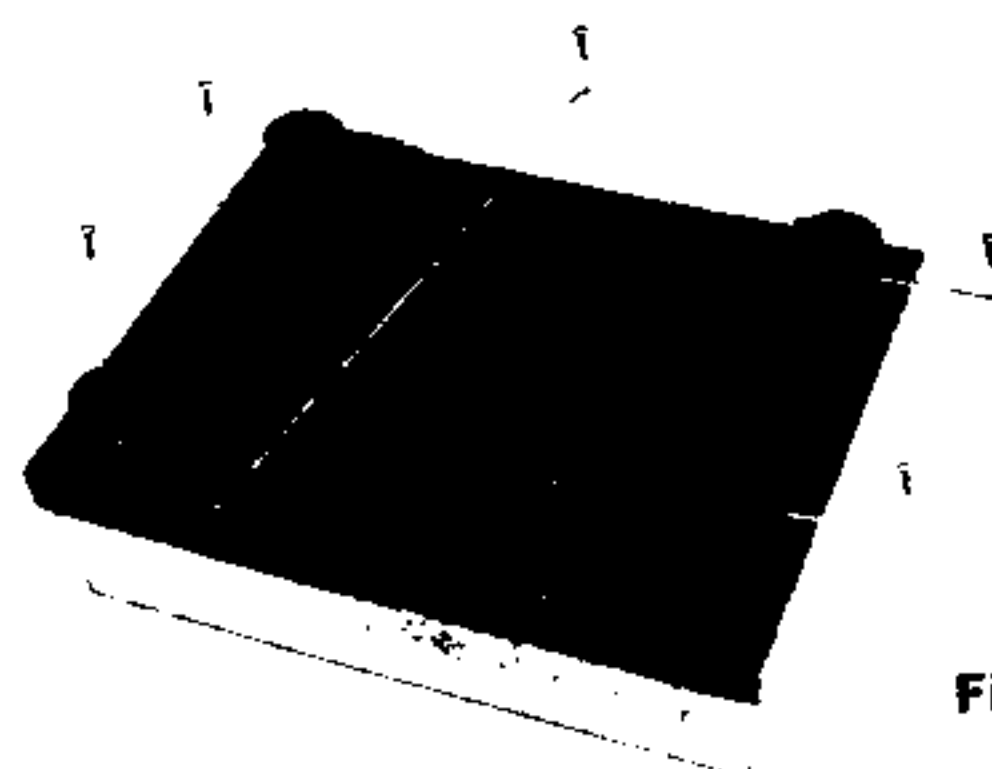

Fig. 3
7. Take off 8 vis-screws from the bottom cover. (Fig. 3)